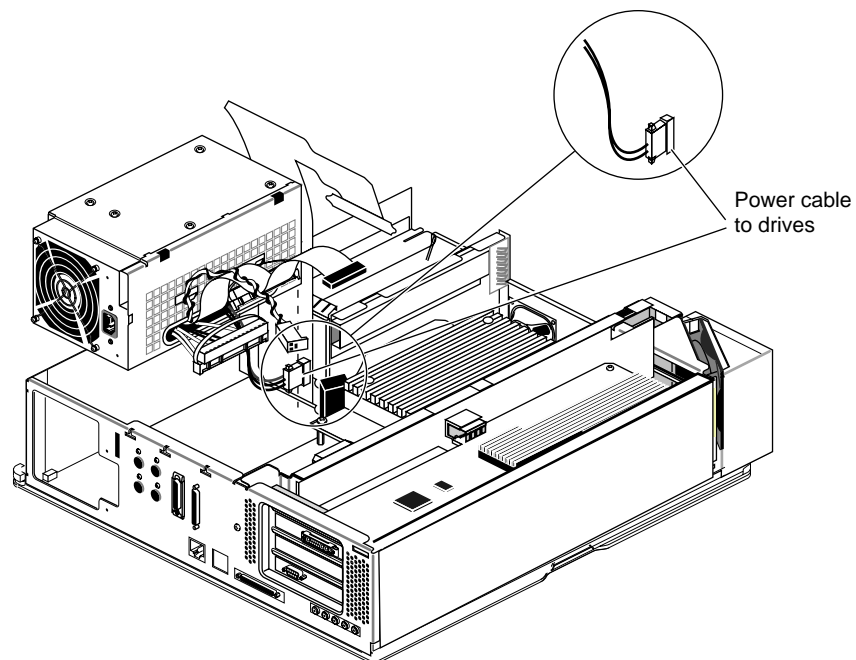

Figure 9-24 Connecting the Power Cable to the Drives
- Hold the power supply with one hand so that the fan faces the back of the chassis and the power connectors are on the bottom. With your other hand, connect the free end of the power cable (shown in Figure 9-24) to the connector located close to the disk drives.